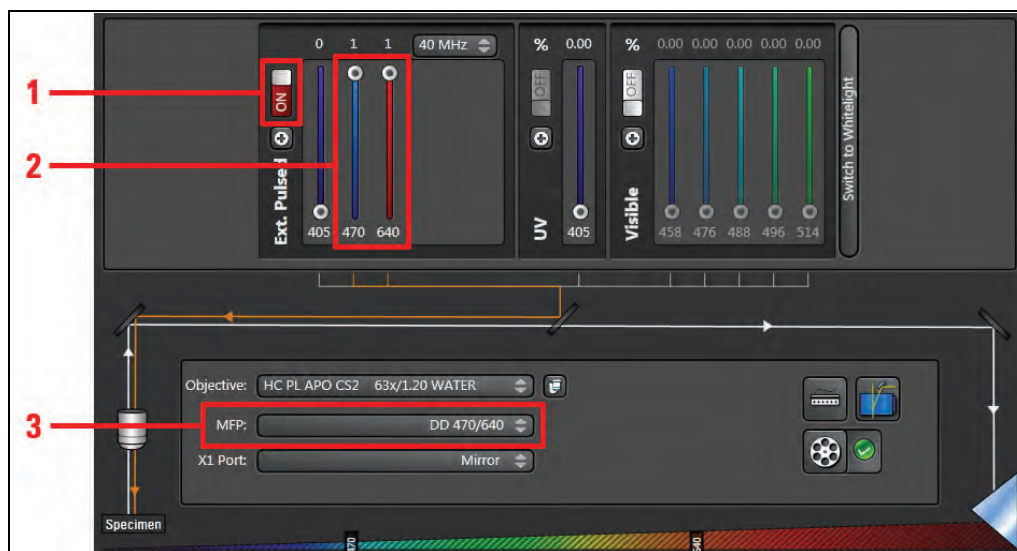

Figure 104: Settings for pulsed VIS lasers in Beam Path Settings
6. Open the shutter for pulsed lasers by turning the button to **ON** (**Figure 104, item 1**).
7. Activate the desired laser by moving the corresponding slider up all the way (**Figure 104, item 2**).
8. Make sure that the multifunction port (**MFP, Figure 104, item 3**) is in the right position (**Table 18**).